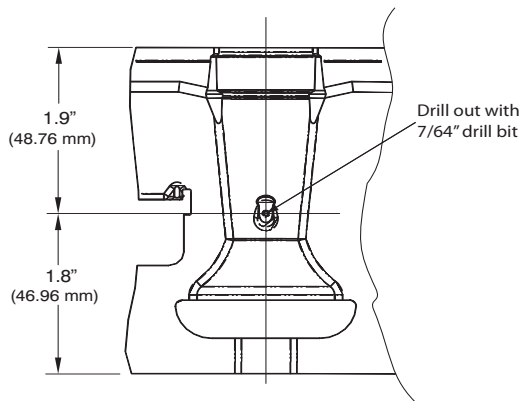

Fig. 7 – Mixer Screw Location
3. If you cannot locate the dimple, refer to Fig. 7 for location of the mixer screw.